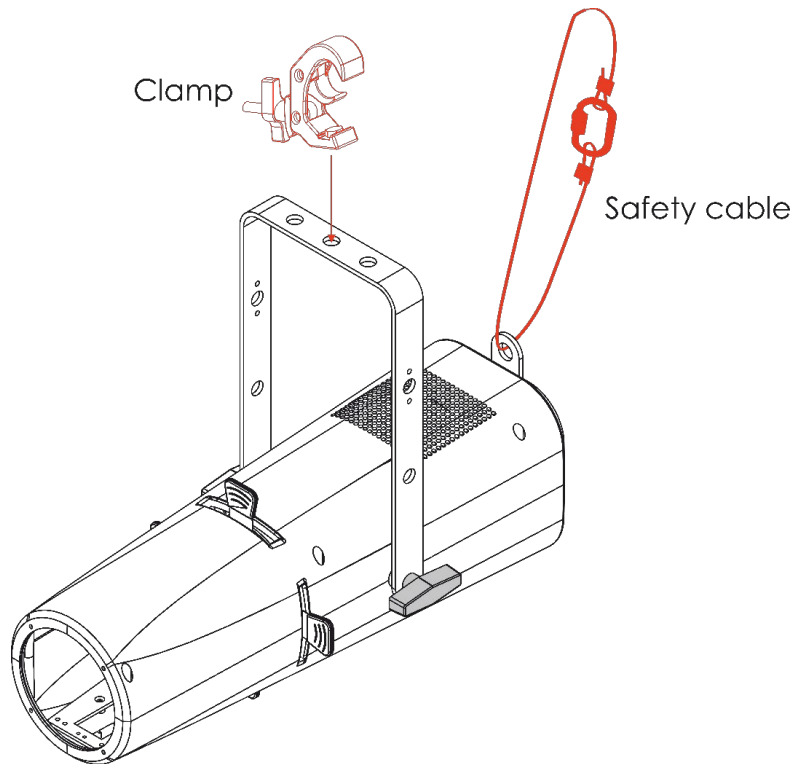

Fig. 05
- 01) Use a clamp to attach the device to the supporting structure, as shown in Fig. 05. Make sure that the device cannot move freely. The use of a quick lock bracket is optional.
- 02) Secure the device with a secondary suspension, for example a safety cable. Make sure that the secondary suspension can hold 10 times the weight of the device. If possible, the secondary suspension should be attached to a supporting structure independent of the primary suspension. Put the safety cable through the **safety eye (08)**, as shown in Fig. 05.